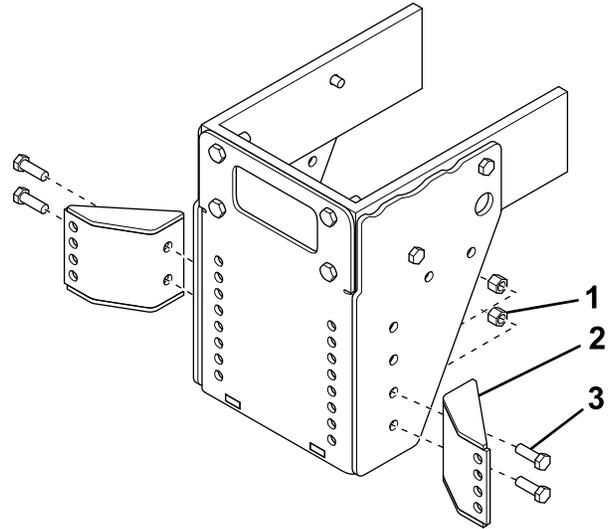

**Figure 3**
- Loosely secure the front of the left sideplate to the frame using a bolt (1/2 x 1-3/4 inches) and nut (Figure 3).
- Using the sideplate as a guide, mark the location of the rear sideplate hole on the frame (Figure 3).
- Secure the left sideplate using 2 bolts (1/2 x 1-3/4 inches) and nuts (Figure 3).